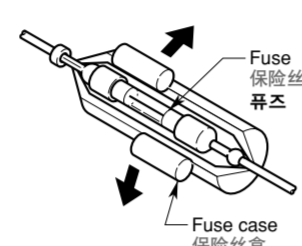

Figure 10 / 图 10 / 그림 10
- To replace the fuse, open the lock on the source unit side, remove the old fuse and insert the new one. (Figure 10)
- 更换保险丝时，打开音源装置侧的锁定，取出旧保险丝后装入新保险丝。(图10)